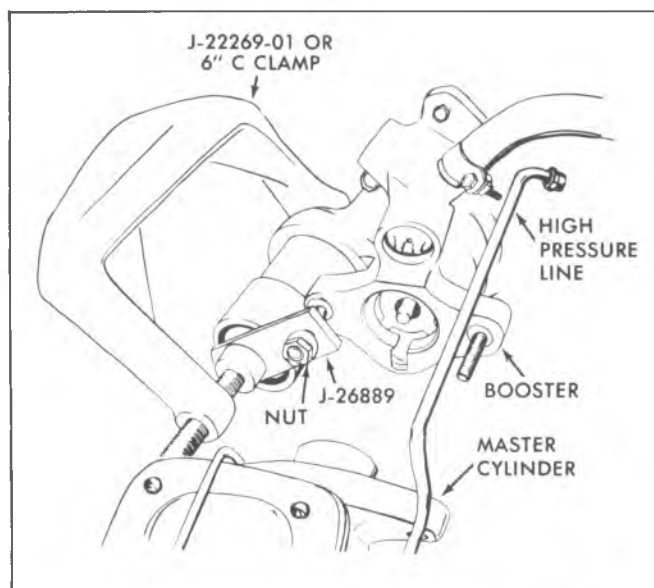

Fig. 5-6E-Compressing Accumulator With J-26889
12. Place the accumulator retaining cap Tool J-26889 over the master cylinder stud and install the nut as shown in Figure 5-6E.
13. Using Tool J-22269-01 or a large "C" clamp (6" minimum), depress the accumulator. Insert a punch into the hole in the housing and remove retaining ring with a small screwdriver, (fig. 5-6E).
17. Using Tool J-22269-01 or a large "C" clamp (6" minimum) depress the accumulator making certain that the accumulator is compressed straight (fig. 5-6E).